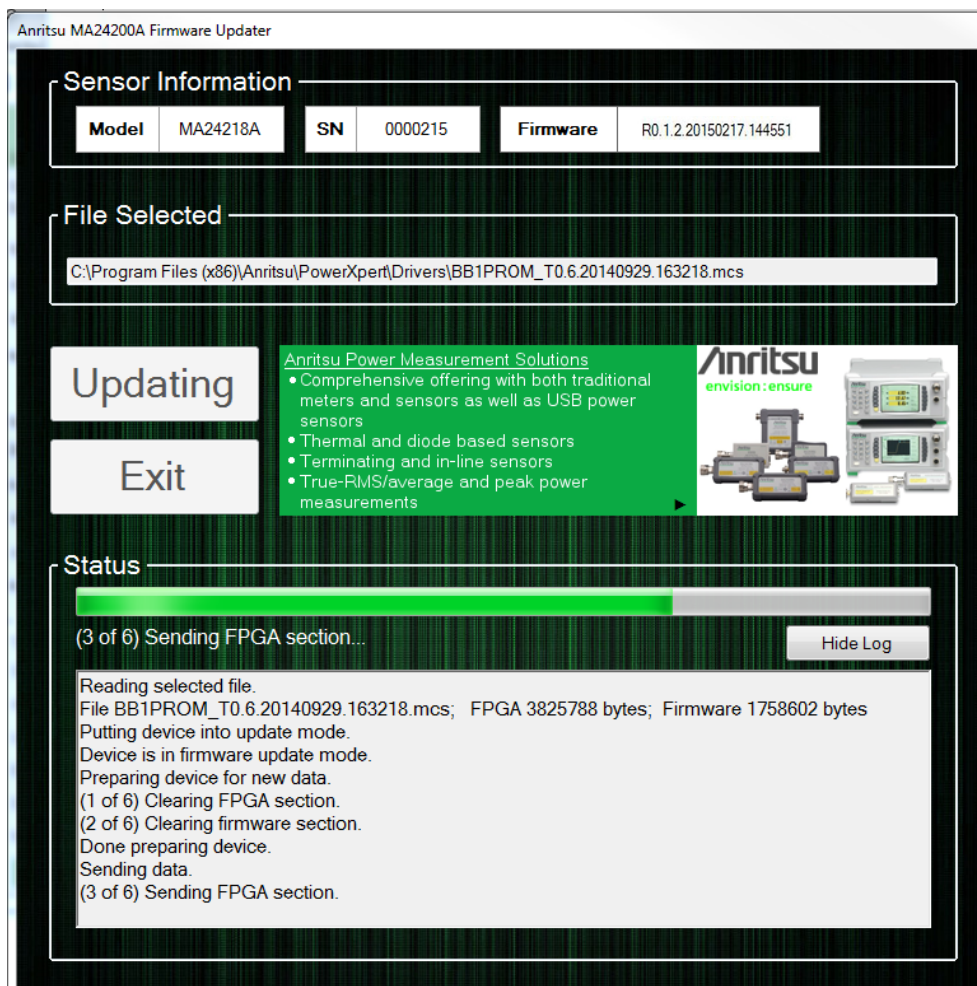

Figure C-6. Updating Firmware Screen
5. Click the flashing Update button. The update process will be displayed on the Firmware Updater screen Figure C-6.